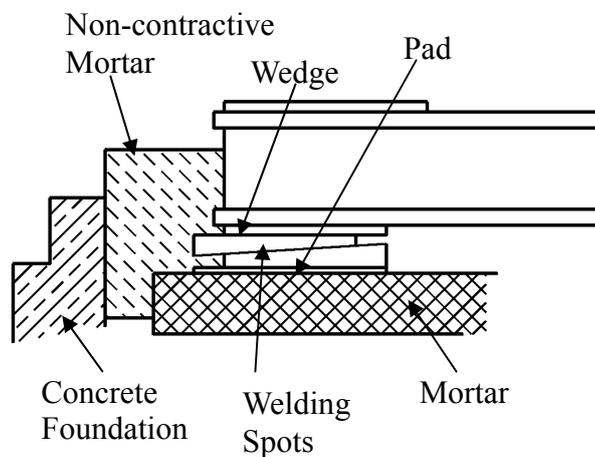

Fig. 8
- (c) Sole plate or common bed should be embedded in concrete foundation as illustrated in Fig.8. Stiff pads should also be installed beneath the wedges which are welded together at various spots about 400-500mm (15-20inches) apart to enable the foundation to evenly carry the weight of the whole motor.